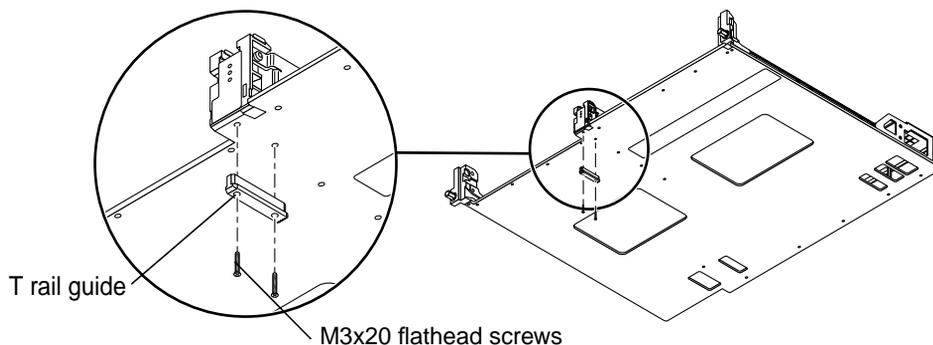

FIGURE 1 Removing the T Rail Guide
**3. Remove the two (2) M3x20 flathead screws securing the T rail guide of the new carrier plate, to the center guide bracket of the new carrier plate and discard. See Figure 1. These items are not needed for this configuration.**
**3. Remove the two (2) M3x20 flathead screws securing the T rail guide of the new carrier plate, to the center guide bracket of the new carrier plate and discard. These items are not needed for this configuration. See Figure 1.**